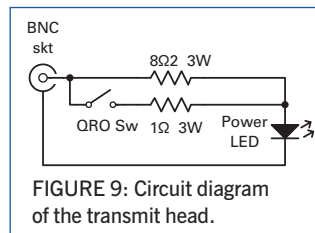

FIGURE 9: Circuit diagram
**TRANSMIT HEAD.** The transmit head consists of a power LED and current limiting resistors mounted on and in a diecast box. **Figure 9** shows the circuit diagram. In normal use the QRO switch is left open. When using SSB it is possible to close the switch, which lets a lot more current flow through the LED LED on speech peaks. Do it at your own risk – it only gives about one extra S-point and I've blown several LEDs this way. Trying it on FM or CW is almost certain to blow the LED.